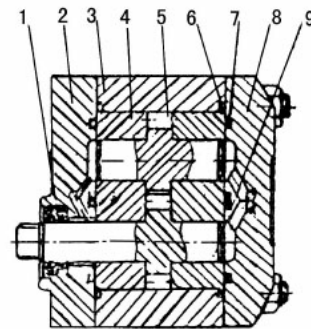

Fig. 6-26 Structure of gear pump
① Structure and installation of gear pump (Fig. 6-26)